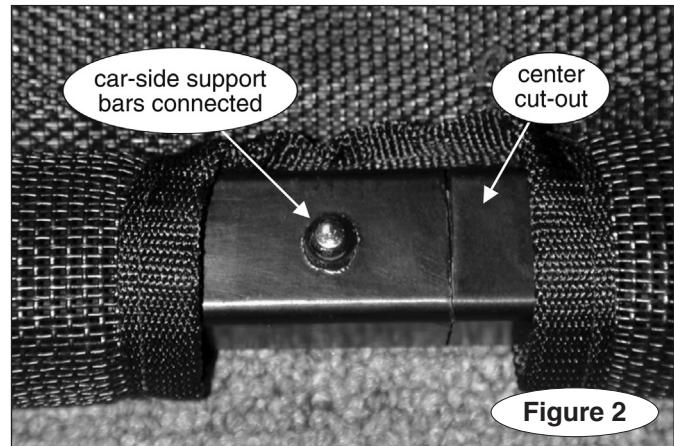

Figure 2
3. With both of the shock absorbers connected to the collar, move to the other side and connect the car-side support bars – one of the support bars has a pre-drilled hole near one end; the other has a push-button lock. Slide both of the support bars through the center cut-out (Figure 2) and into the pocket at the edge of the screen (Figure 2), so that the hole and the push-button lock are at the center. Then, depress the push-button lock and slide the bars together, until the lock snaps through the hole (Figure 2).